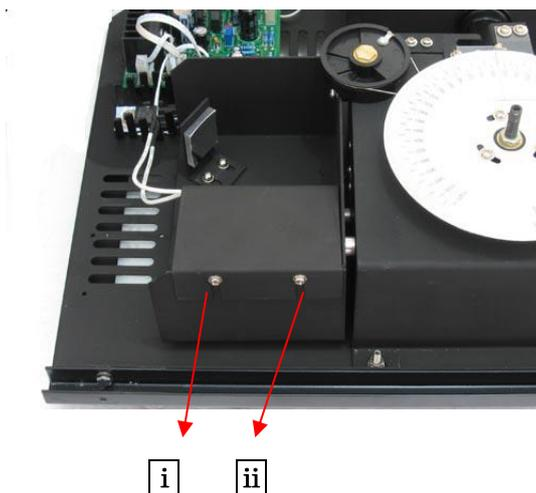

Fig.2-3
- 7) Unscrew the two screws **i & ii** from the **Lamp Cover** and remove the cover.(Fig.2-3)